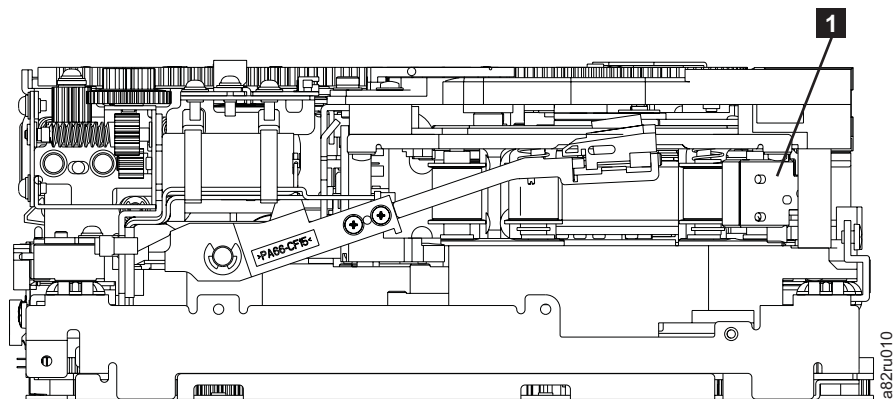

Figure 168. Leader Block Assembly (LBA)
- 7. Rotate the threader motor worm gear (**4** in Figure 167 on page 283) to turn the threader mechanism gear (**6** in Figure 167 on page 283) counterclockwise. This moves the LBA out of the cartridge and past the read/write head. Stop this rotation when the LBA is near the tape guide roller nearest the rear of the drive (**1** in Figure 168).